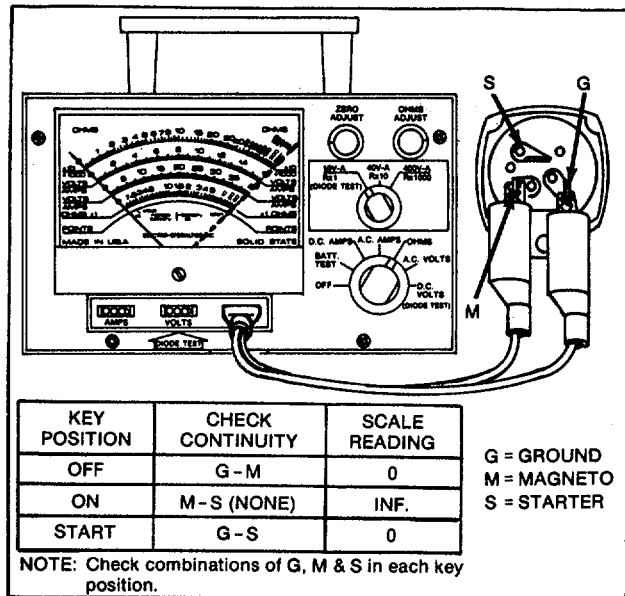

Fig. 53 - Starter Key Switch
- C. Faulty starter switch (open circuit). See Fig. 53.
Test key switch as noted in Fig. 53. Replace switch if not as shown under column, "Check Continuity."